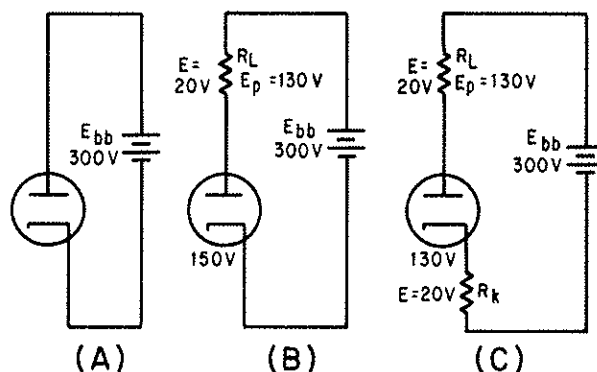

Figure 1-24.—Loss due to cathode biasing.
volts dropped across the cathode resistor. Plate voltage becomes 280 volts - 20 volts = 260 volts. To understand this a little more thoroughly, look at figure 1-24. In view (A), the source voltage is 300 volts d.c. There are two ways that this voltage can be looked at: either the plate is at +300 volts and the cathode is at 0 volts (ground), or the plate is at +150 volts and the cathode is at -150 volts. In electronics, it is common practice to assume that the plate is at +300 volts while the cathode is at 0 volts. To simplify this discussion we will assume that the plate is at +150 volts, and the cathode is at -150 volts. The potential difference between plate and cathode is 300 volts. If a plate-load resistor is installed, as shown in view (B), 20 volts are dropped by R_L . The potential difference between the plate and cathode is now 280 volts. In view (C), R_k has now been placed in the same circuit. R_k drops 20 volts. Therefore, the effect of cathode biasing is to reduce the maximum positive signal that the circuit can produce. In this case, the maximum positive signal has been reduced by 20 volts. Despite these disadvantages, cathode biasing has two main advantages. It is simple and economical.